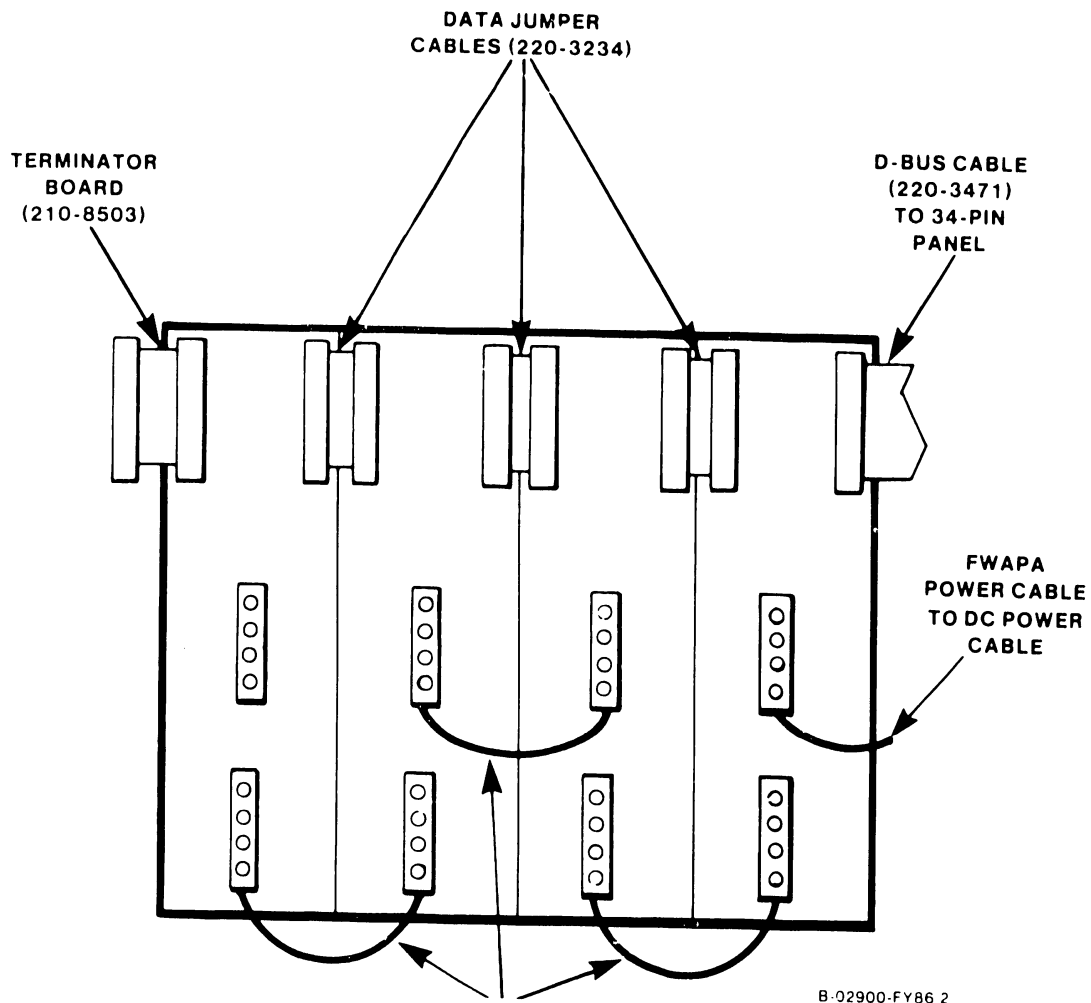

Figure 7-21. FiberWay Active Port Assembly Removal
2. Disconnect the power jumper cables and/or the FWAPA power cable from the FiberWay active port assembly (FWAPA) to be removed. See figure 7-21.